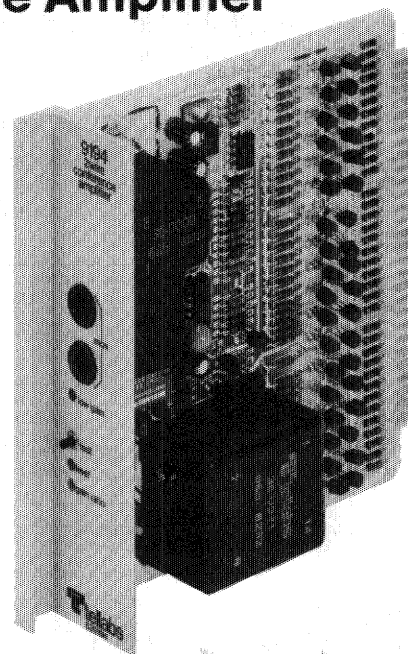

figure 1. 9194 2Wire Conference Amplifier Module
1.01 The Tellabs 9194 2Wire Conference Amplifier module (figure 1) supplies controlled gain to maintain satisfactory transmission levels in 2wire telephone conference applications of up to 36 lines. The 9194 is primarily used in Tellabs' 291 and 291R Conference/ Alerting Systems (see paragraph 2.02).